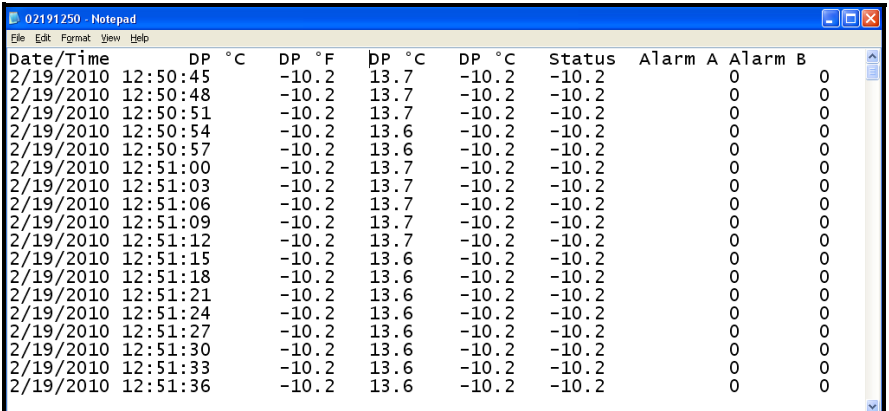

Figure 59: Log File Notepad
3. Click on the desired file and a screen similar to Figure 59 appears.